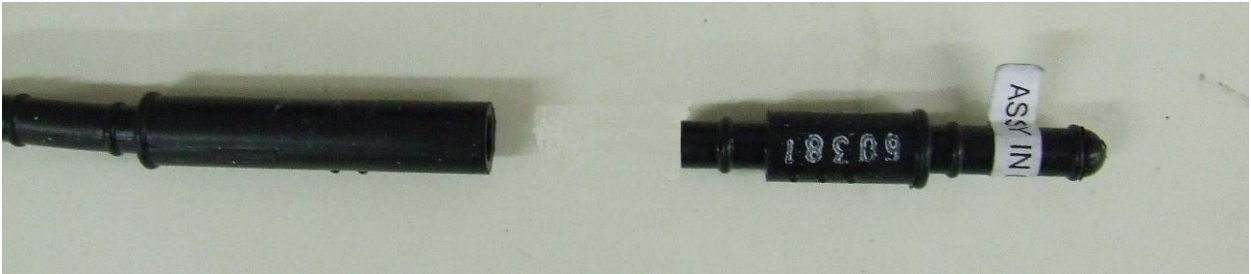

Figure 46 – Seaconn Dummy Plugs
- Remove the ground wire from the hammer, and disconnect the remaining three wires. The three female sockets (these are the ones wired to the winching cable conductors) should be plugged with the dummy pins supplied with the drill (as shown in Figure 46). This is to keep fluid out of the electrical contacts.